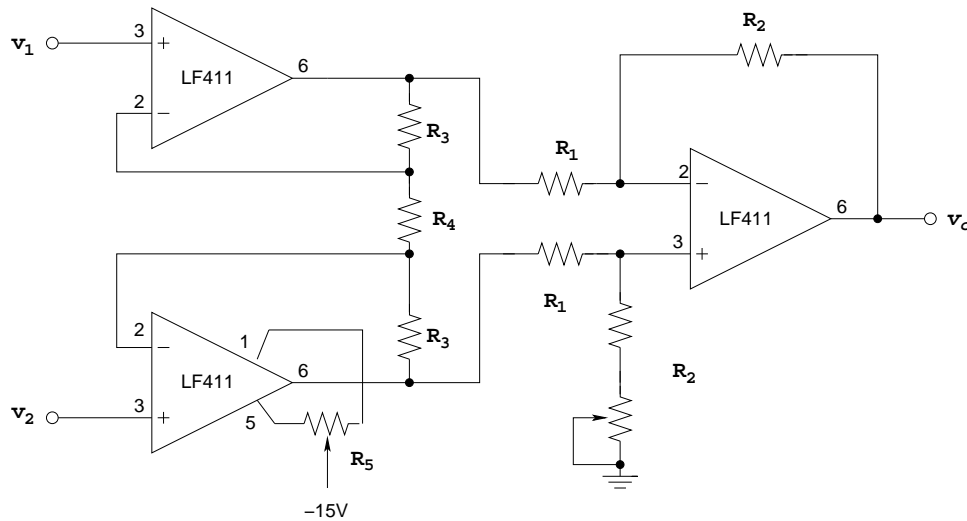

Figure 3.
4. Convert your differential amplifier to the classical ‘instrumentation amplifier’ shown in Figure 3 by adding a non-inverting amplifier to each input. Use 411 op amps for each of the
2. Consider the instrumentation amplifier shown in Figure 3 of the lab and Section 2.4.2 of Sedra and Smith. Design the amplifier with a total differential gain of about 600, that is $V_O = 600(V_1 - V_2)$ (note the differential gain of 30 is part of this).